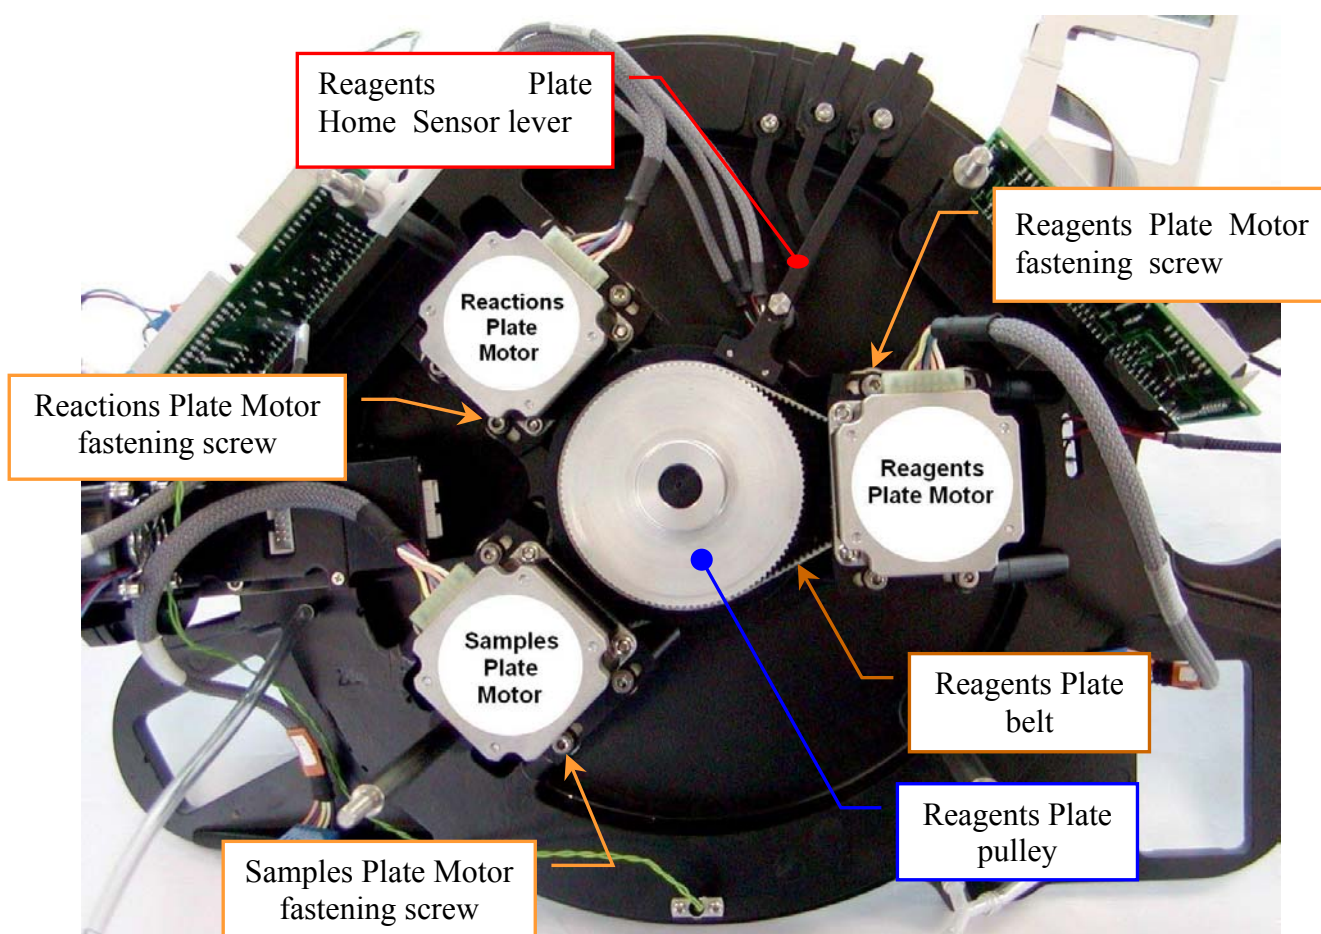

Fig. 59 - Plates Assembly (inferior view)
3. Loosen the four fastening screws of the Reagents Plate Motor (Fig. 59).
4. Unscrew the Reagents Plate Home Sensor lever adjusting screw (Fig. 67) and rotate the Reagents Plate Home Sensor lever (Fig. 59) out of the Reagents Plate pulley.
5. Remove the belt from the Reagents Plate Motor pulley (Fig. 59).
8. Upset the Plates Assembly carefully laying it down from the part of the Reactions Plate (Fig. 59).
9. Unscrew completely the four fastening screws of the Reagents Plate Motor (Fig. 59) and pull out it from its housing.
19. Replace the Reagents Plate Motor on its housing with the connector turned towards the Reagents Plate Home Sensor lever (Fig. 59).
20. Insert (without tighten) the four Reagents Plate Motor fastening screws (Fig. 59).
24. Push the motor outward from the Plates pulleys axis and holding it in this position, so as to maintain the belt in tension, then tighten the four fastening screws of the Reagents Plate Motor (Fig. 59).
2. Loosen the four fastening screws of the Reagents Plate Motor (Fig. 59).
10. Loosen the four fastening screws of the Samples Plate Motor (Fig. 59).
13. Unscrew completely the four fastening screws of the Samples Plate Motor (Fig. 59) and pull out it from its housing.
23. Replace the Samples Plate Motor on its housing with the connector turned towards the Optic Assembly (Fig. 59).
24. Insert (without tighten) the four Samples Plate Motor fastening screws (Fig. 59).
27. Push the motor outward from the Plates pulleys axis and holding it in this position, so as to maintain the belt in tension, then tighten the four fastening screws of the Samples Plate Motor (Fig. 59).
36. Push the motor outward from the Plates pulleys axis and holding it in this position, so as to maintain the belt in tension, then tighten the four fastening screws of the Reagents Plate Motor (Fig. 59).
4. Loosen the four fastening screws of the Samples Plate Motor (Fig. 59).
8. Loosen the four fastening screws of the Reactions Plate Motor (Fig. 59).
12. Unscrew completely the four fastening screws of the Reactions Plate Motor (Fig. 59) and pull out it from its housing.